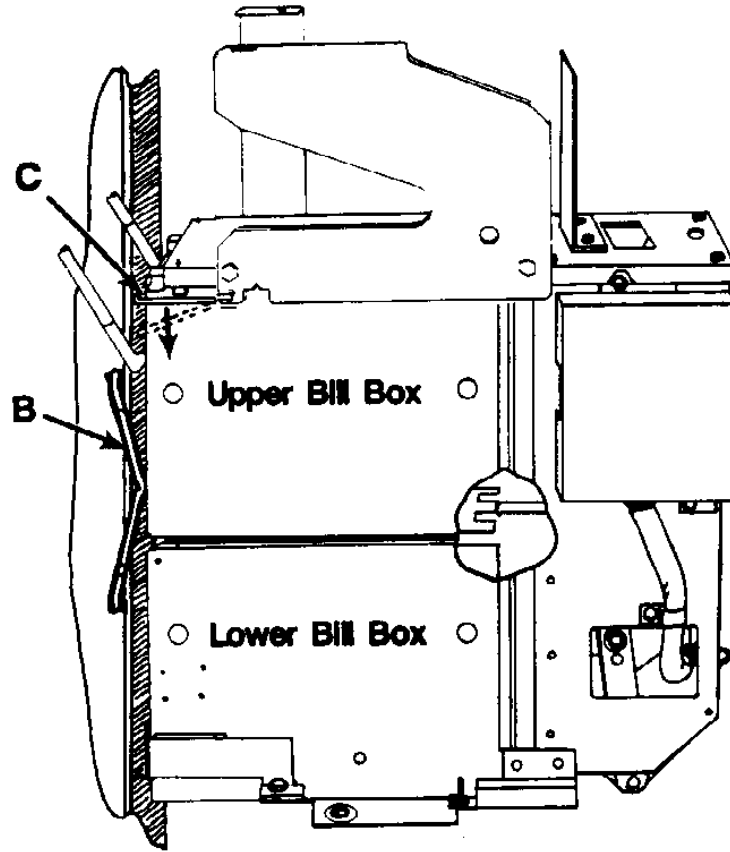

Figure 3-15. Lower Bill Box Stop Bracket Adjustment (BC-1200 Only)
5. Check that the spring wire on the door is properly positioned by leaving the upper bill box unlatched (let the bill box stick out approximately 2 ½ inches). Slowly close the door and verify that the spring wire (*B*) pushes the upper bill box into the latched position (*see Figure 3-15*).
6. If the upper bill box does not push into the latched position, bend the spring wire out far enough to ensure that the spring wire pushes the upper bill box in far enough to allow the bail wire to fall and latch the bill box in place when the door is closed (the bail wire *C* falls to the position shown in *Figure 3-15*).